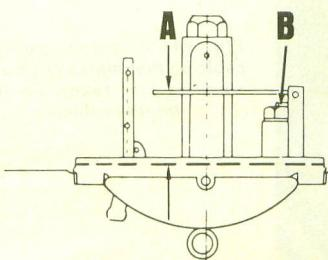

Fig. Y11-2-Float level (A) should be measured from gasket surface with gasket removed. Adjust level by bending tang (B).
**CARBURETOR.** Model DS7 is equipped with two Mikuni VM26SC carburetors. Idle air screw setting is 1 turn open. All other models are equipped with two Mikuni VM28SC carburetors. Idle air screw setting is 1 ¼ turns open on models R5C and RD250A; 1 ½ turns open on model RD250; 1 ¾ turns open on models R5, R5B, RD350, RD350A. Float level for all models should be 15MM (A—Fig. Y11-2). Refer to following tables for carburetor specifications: